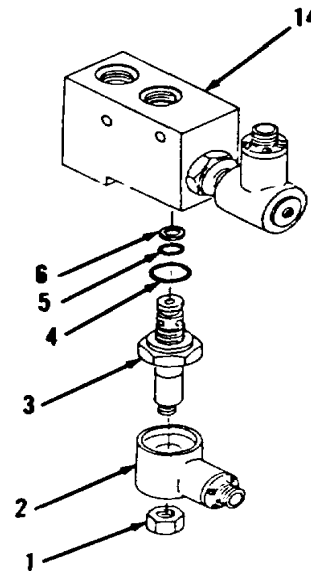

Figure 10-65.
1. Remove nut (1), coil (2), cartridge (3) and seals (4, 5 and 6) from body (14, Figure 10-65). Discard seals (4, 5 and 6).
2. Install new seals (6, 5 and 4), cartridge (3), coil (2) and nut (1, Figure 10-65).